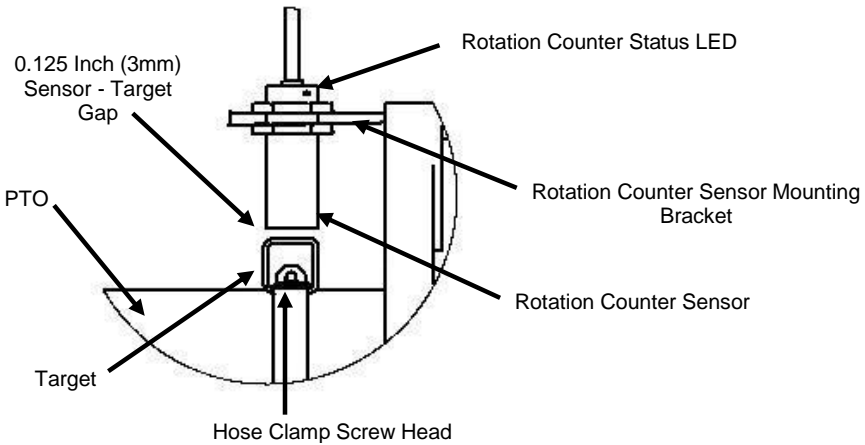

Figure 3: Rotation Counter Sensor Adjustment
5. Adjust sensor to 1/8" (3mm) from target as shown in Figure 3.
1. With power applied, the Rotation Counter Status LED as shown in Figure 3 will turn “On” when it senses the steel target.
2. If sensor LED is constantly “On”, move sensor from target slightly. The target should light sensor LED **only** when PTO is spinning or when target is directly in line with sensor as shown in Figure 3.